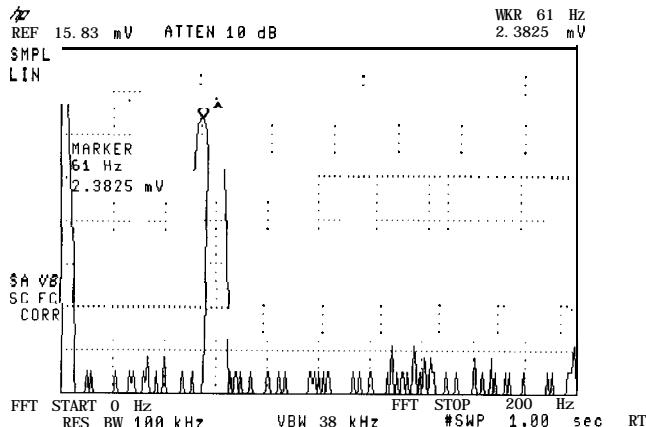

Figure 4-1. FFT Annotation
11. Press **[MEAS/USER]** and **% AM** ON OFF so that ON is underlined. The spectrum analyzer reads out the percent AM of the largest modulation frequency. An arrow indicates the signal being measured (see Figure 4-1). This measurement does not include all of the harmonics of the modulating signal.
7. Press **(MEAS/USER)** and **% AM ON OFF** so that ON is underlined. The spectrum analyzer reads out the percent AM of the largest modulation frequency. An arrow indicates the signal being measured (see Figure 4-1). This measurement does not include all of the harmonics of the modulating signal.